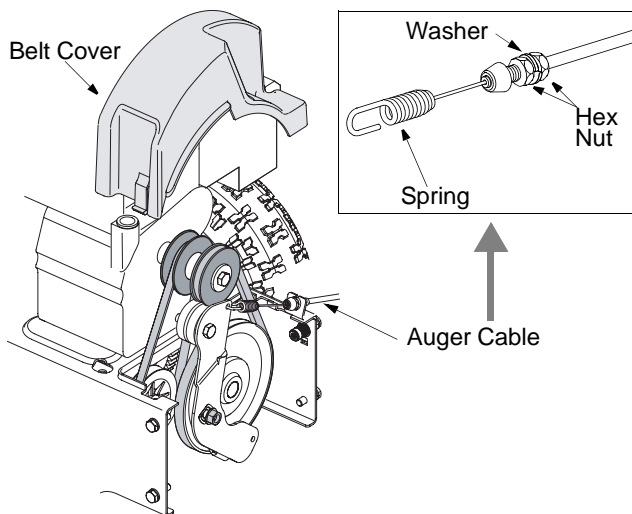

Figure 13
- Tighten two hex nuts on the auger cable towards the spring to increase the tension on the auger belt. See Figure 13.